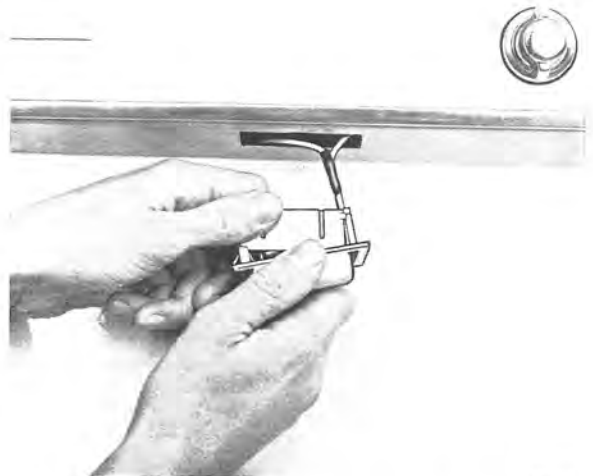

Fig. 3-81. Disassembling license plate light
3. Disassemble the plate according to Fig. 3-81.